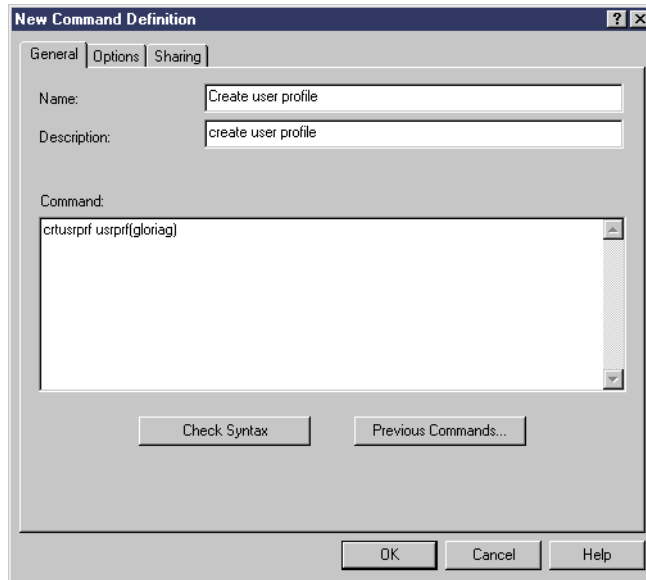

Figure 20. New Command Definition display
3. Right-click **Command**, and select **New Definition**. The New Command Definition window appears as shown in Figure 20 on page 40.